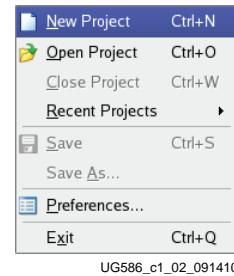

Figure 1-2: New CORE Generator Tool Project
2. Choose **File > New Project** to open the New Project dialog box. Create a new project named 7Series\_MIG\_Example\_Design (Figure 1-2).